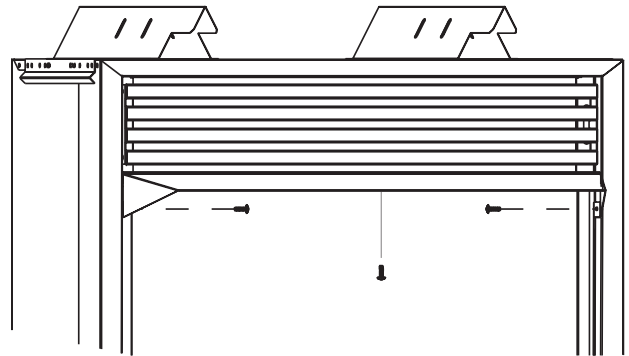

Figure 9
3. Insert trim side left and trim side right into the fireplace. Attach (4) Phillips screws through bottom and top clearance hole on trim side left and trim side right and into fireplace.
5. Attach fireplace hood to fireplace with (3) Phillips screws. See Figure 9.
6. Insert the trim top into the top, interior of the fireplace. Position the (3) clearance holes in the trim top downward. Align the (3) clearance holes with the (3) screw holes in the top, interior of the fireplace. When the trim top contacts the wall surface secure the trim top to the fireplace with (3) Phillips screws.